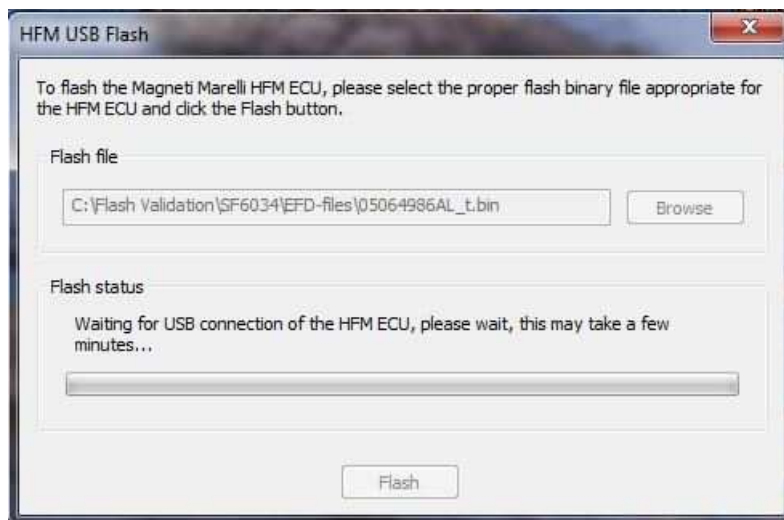

Fig. 14
11. It may take a few minutes for the PC to detect the HFM. If so, the following screen will be displayed (Fig. 14) .